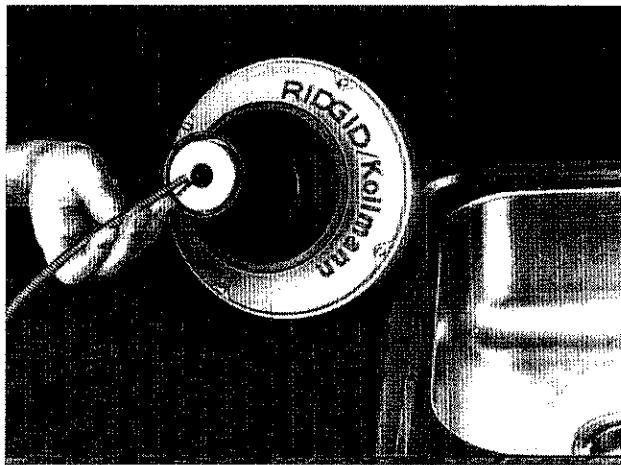

Figure 6. Loading loose cable into canister
2. Insert small end of cable into opening in the front end of the Canister's Front Half and continue feeding entire Cable into Canister. (Fig. 6)